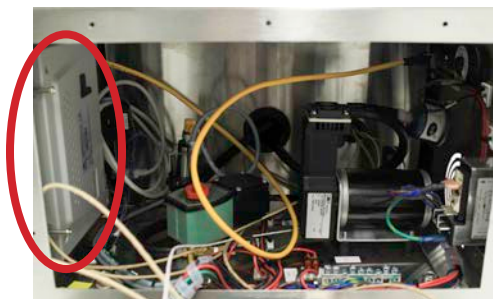
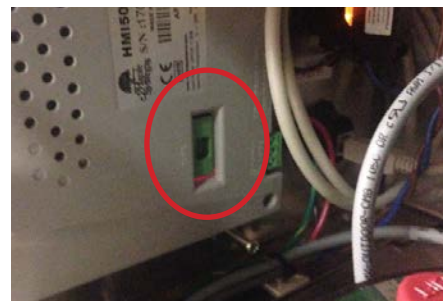

Figure H.1 - Fuse Box
Figure H.2 - Fuse Indicator
3. Looking into the VDO Touch, the fuse box is located behind the display on the left side (Figure H.1). The fuse holder has a clear window to allow for visual inspection of the fuse (Figure H.2). Each fuse is a 1.25 A, 5x20 mm fast blow fuse.